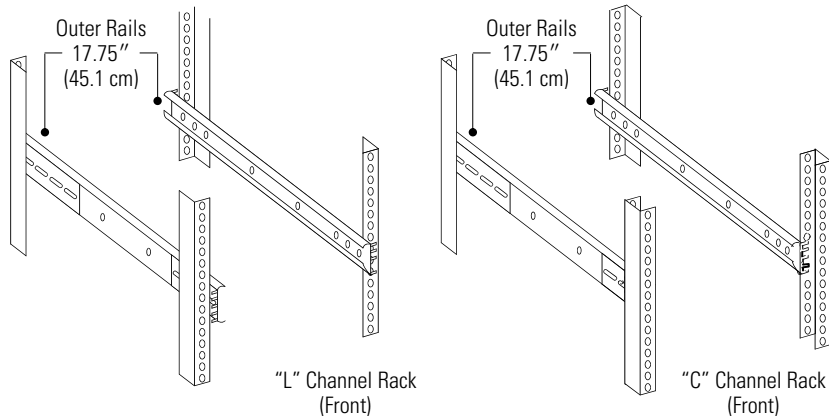

Figure 18. Attaching the Outer Rails to the Rack
8. To ensure the RBC-3 front panel fits flush with the front of the rack, use a rack with front supports that are “L” channels and mount the outer rail on the front of the “L” channel as shown in Figure 18.
NOTE Figure 18 is only an example for mounting position. Different rack manufacturers may vary in design and/or dimensions. Some racks have a “C” channel in the front; the mounting brackets should be attached to the rear of the “C.”
10. Attach the outer rails to the rack using appropriately-sized bolts for your rack (not supplied). See Figure 18.